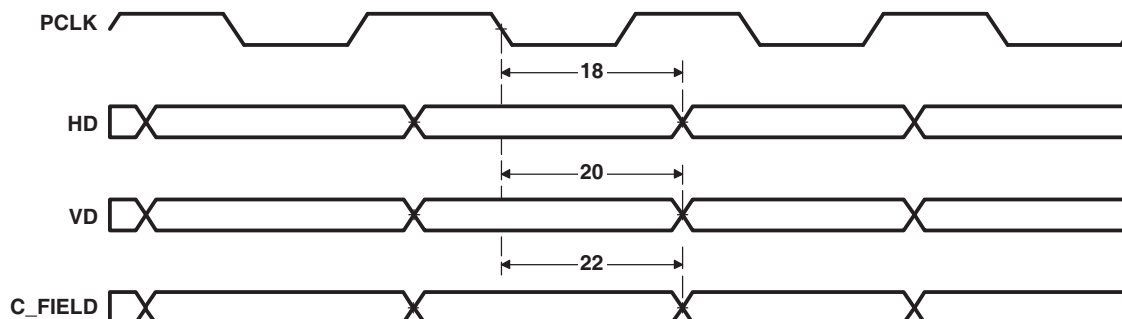

**Figure 6-22. VPFE (CCD) Master Mode Control Output Data Timing**
**Table 6-38. Switching Characteristics Over Recommended Operating Conditions for VPFE (CCD) Master Mode(1) (see Figure 6-22)**